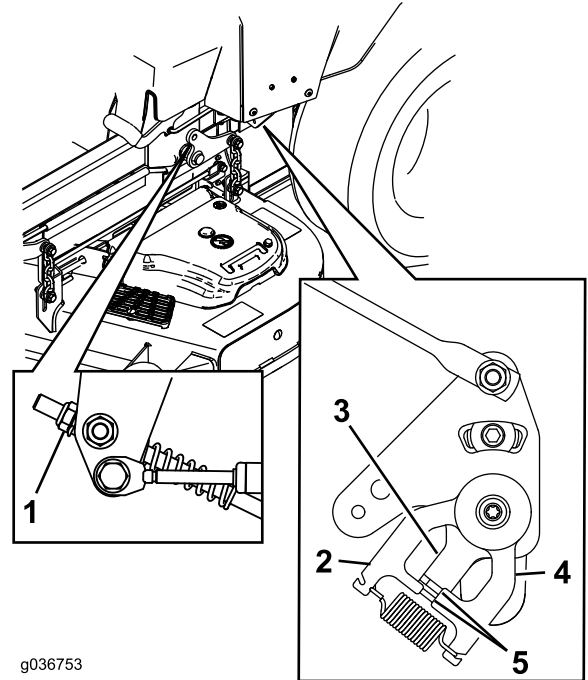

Figure 67
11. Adjust the pump-control-rod lengths by rotating the nut in the appropriate direction until the wheels slightly creep in reverse (Figure 67).